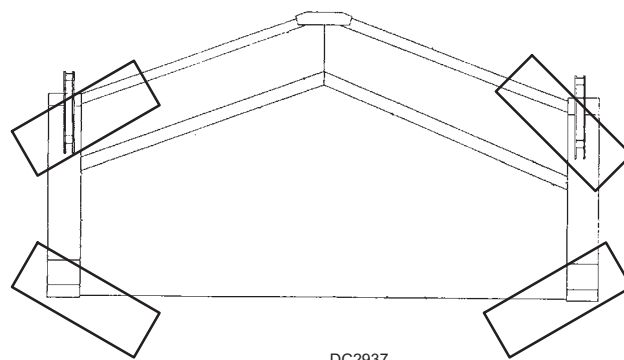

Figure 5 Block Location
5. Install blocks securely under each corner of the mower, Figure 5.